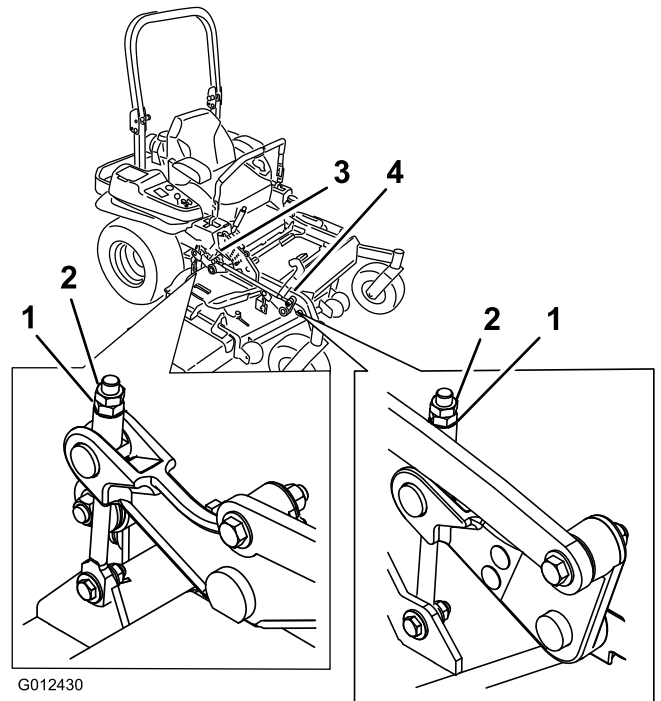

Figure 87
- 10. Fine-tune the adjustment nut on the front deck lift assembly by turning it (Figure 87).
- Fine-tune the adjustment nut on the front deck lift assembly by turning it (Figure 87).